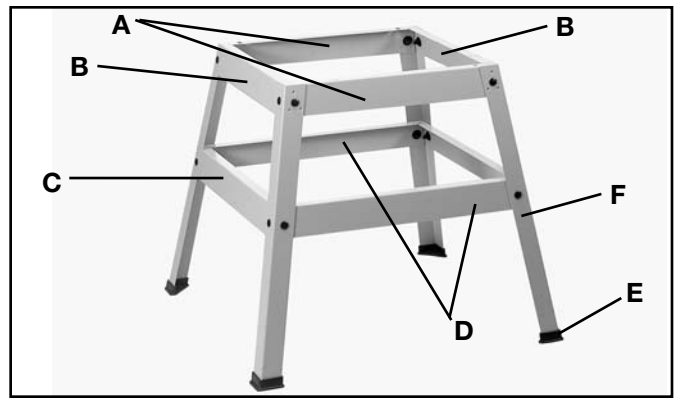

Fig. 20A
1. Assemble the stand as shown in Fig. 20A, using 32 carriage bolts, flat washers and hex nuts. Do not completely tighten the hardware at this time. Letters are stamped on the stand brackets for ease in assembly.
2. Assemble the rubber feet (E) Fig. 20A, to the bottom of each leg (F) as shown. **NOTE:** Each rubber foot is provided with holes for mounting the stand to the floor surface if required.